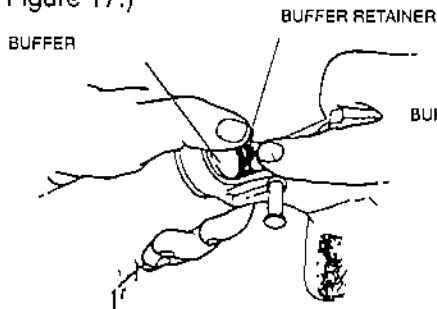
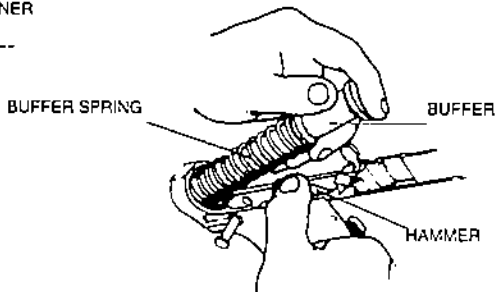

FIGURE 16 — BUFFER RETAINER DEPRESSED TO START BUFFER
FIGURE 17 — BUFFER AND ACTION SPRING REMOVED
15. Depress buffer, maintaining pressure as buffer is under spring tension, to prevent it from being ejected when buffer retainer is depressed. Depress buffer retainer to permit buffer and action spring to move forward. (See Figure 16.) Then depress the hammer to allow the action spring and buffer assembly to continue to move forward and be completely removed from the receiver extension (See Figure 17.)